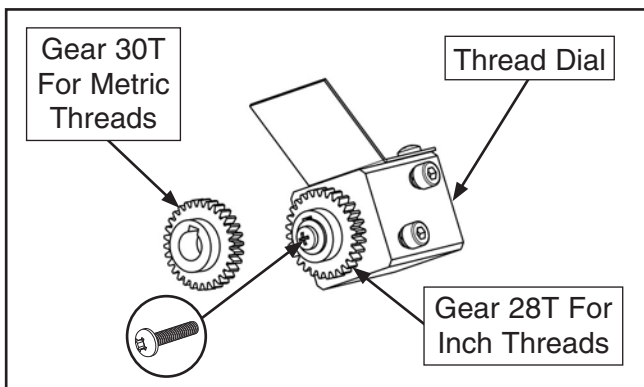

Figure 80. Thread-dial change gears can be exchanged for cutting either inch or metric threads.
The G0773 thread dial comes with a 28T gear installed on the thread dial for cutting standard threads. A 30T gear is also included for cutting some metric threads, but it must be installed in place of the 28T thread dial gear before it can be used (see **Figure 80**).
2. Remove Phillips head screw shown in **Figure 80**, remove existing gear from thread dial, and replace with correct gear for threading operation.